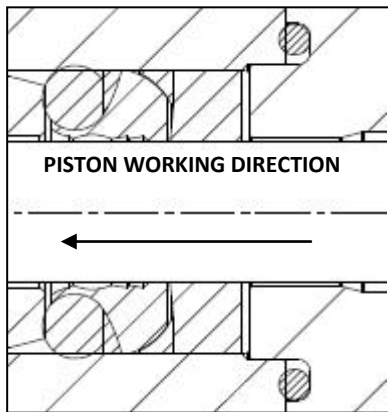

Fig. 36
B) On the internal diameter, grease must be applied paying great attention to filling all the pockets between the sealing lips as shown fig. 36/a.